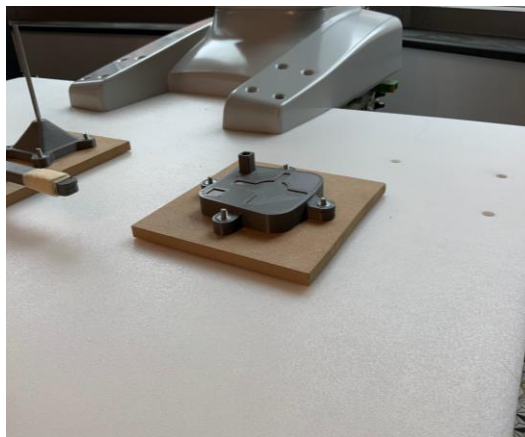
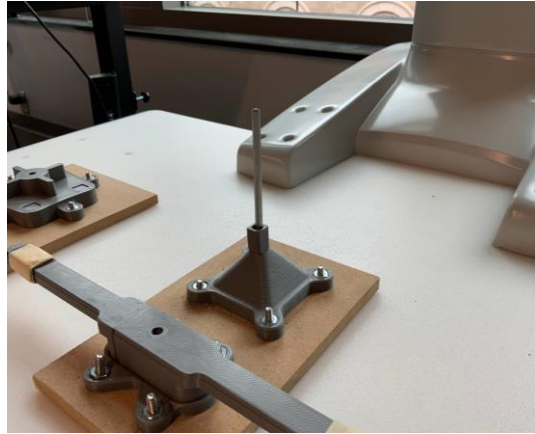
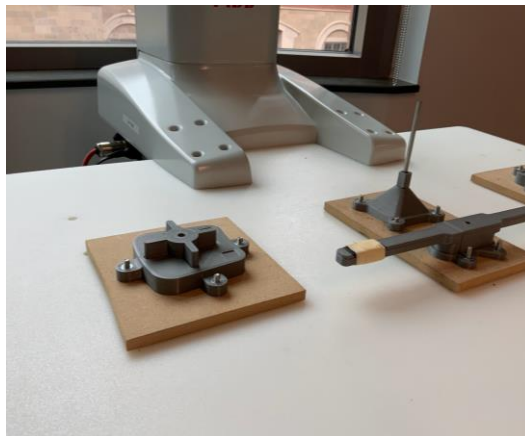

Figure 2. Starting position of the spacer on its 3D printed base plate.
Figure 3. Final solution with the spacer successfully placed at the end position.
Figure 4. Starting position of the gear on its home 3D printed base plate.
- **Task 1 (Spacer):** Participants will be asked to move the 3D printed spacer from its starting position (Figure 2) to its final resting position (Figure 3) using the two-armed robot. To perform this task, the participants will need to program the IRB 14000 movement positions using one of two programming interfaces.
- **Task 2 (Gear):** Participants will be asked to move the 3D printed gear from its starting position (Figure 4) to its final position (Figure 5) using the robot. To perform this task, the participants will need to program the IRB 14000 movement positions using one of two programming interfaces.
Ensure that all objects are in their initial position. First, the spacer should be placed below the robot's left arm in the position closest to the robot (See Figure 2). Second, the gear should be placed below the robot's right arm in the available position (See Figure 4). Finally, the propeller should be placed in between both robot arms in the position available (See Figure 6).